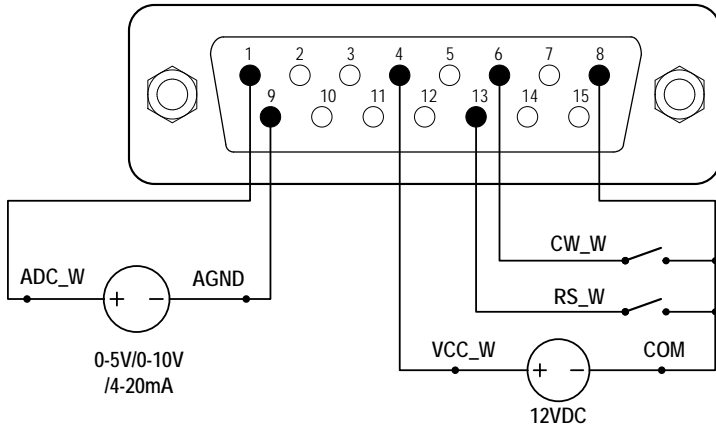
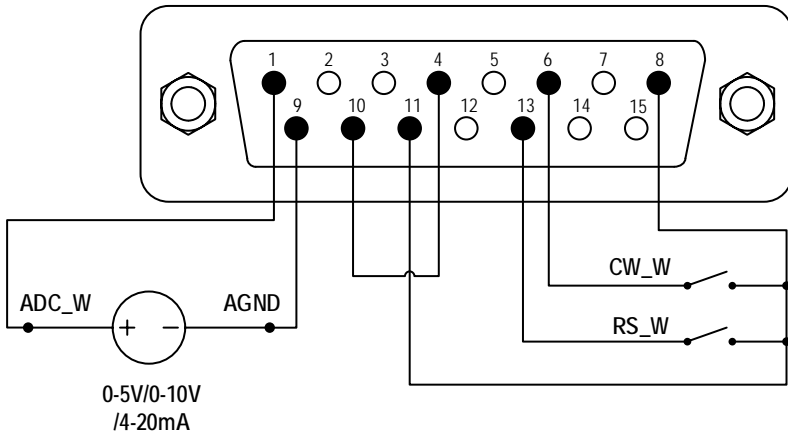

Figure 48. DB15 Wiring with External 12VDC Power Source
Figure 49. DB15 Wiring with Internal 12VDC Power Source
- 1) Switch the power off. Wire the DB15 connector as shown on Figure 48 or Figure 49, and connect it to the DB15 port on the rear of the pump.